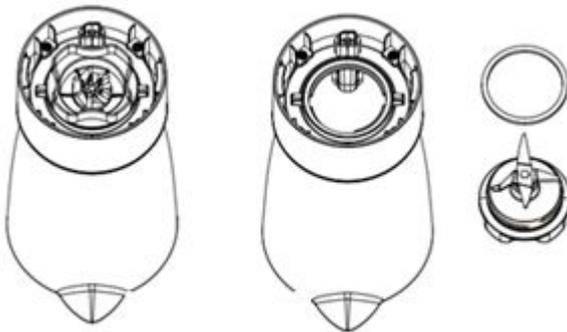

Fig.6
3. Dismantle all detachable parts. Disassemble the Jar from the motor unit and rinse it under running water, then detach the blade assembly from the jar assembly, take the blade assembly out, finally remove the jar base seal ring (see fig.6). In addition, detach the measure cup from the jar cover. Rinse the jar, blade, jar base, jar cover and measure cup under running water.